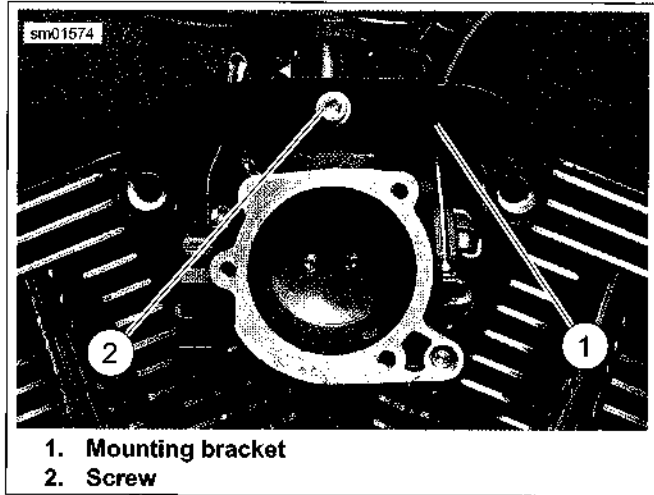

Figure 4-15. Induction Module Mounting Bracket
6. See Figure 4-15. Remove screw (2) and mounting bracket (1).
6. See Figure 4-15. Install mounting bracket (1) and screw (2). Tighten screw finger-tight.